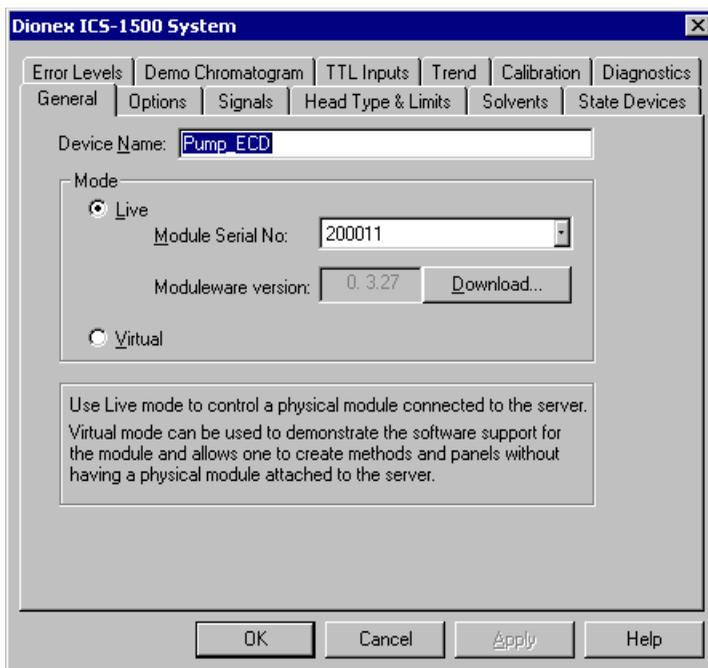

Figure 13. ICS-1500 System Properties
12. The ICS-1500 System dialog box opens (see Figure 13). The **General** page shows the Device Name (**Pump_ECD**), the Mode (**Live**), and the Module Serial No.